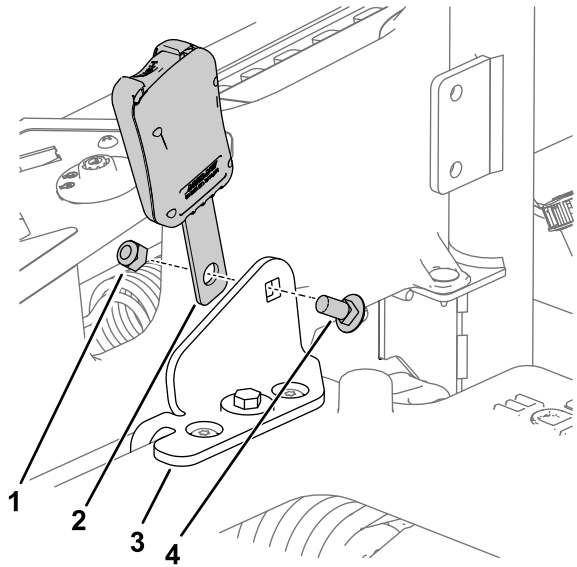

Figure 8
- Install the seat belt-buckle and tongue assemblies to the seat-belt brackets using 2 carriage bolts (7/16 x 1 inch) and 2 locknuts (7/16 inch) as shown in Figure 8. Repeat on the other side for the tongue assembly.